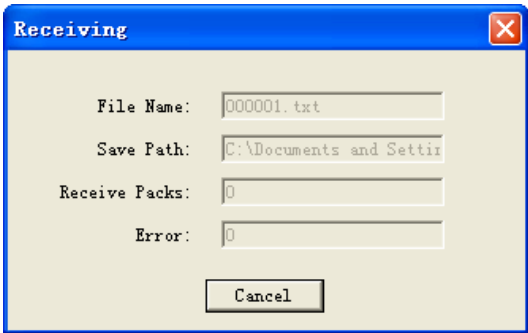

Fig. 11-1-3-3
5. After the file receiving, the status bar of the dialog displays “Received”, as is shown in Fig.11-1-3-4: